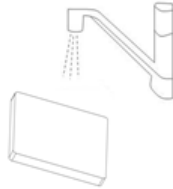

Fig.18
- e) As in fig. 18, wash the first layer of the dust filter when it's dirty.